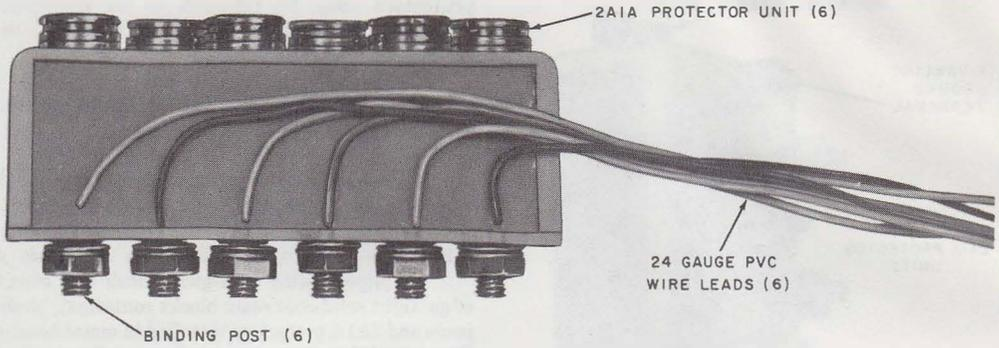
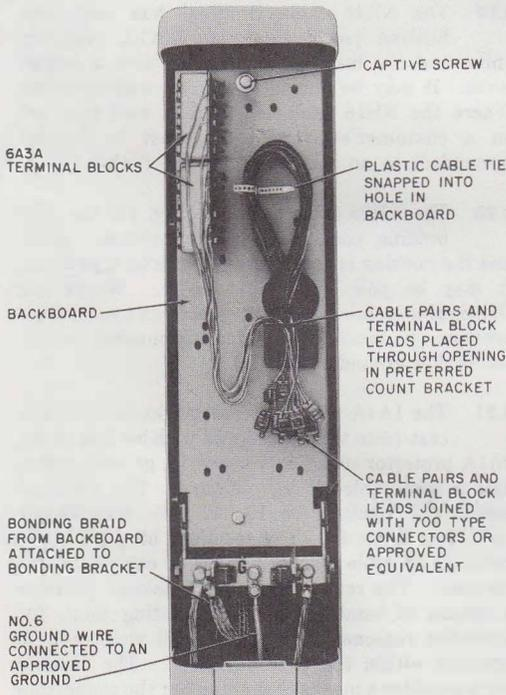

Fig. 10—6A3A Terminal Block
Fig. 11—6A3A Terminal Blocks Installed in PC6/48 Closure
3.12 The 6A3A terminal block (Fig. 10) can be used in lieu of fuseless station protectors where stations are served by buried cable and the cable closure (such as PC6 or PC12 cable closure) is installed on the premises served. The 6A3A terminal block mounts inside the cable closure as shown in Fig. 11. The 6A3A terminal blocks should not be used for station protectors when a PC6 or PC12 cable closure is used to feed separate buildings and is located remotely from them. Individual